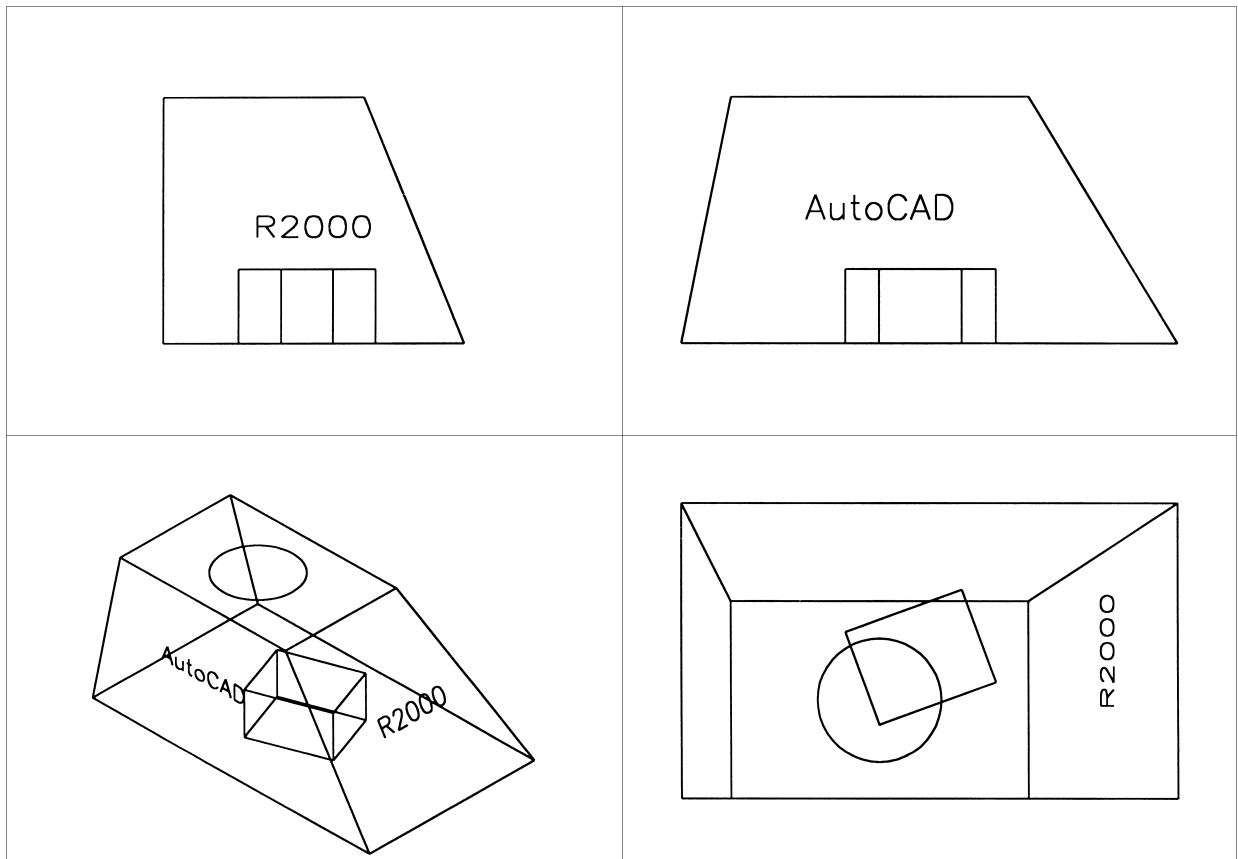

**Figure 10.13** Centre viewport example 1 – 3DWF3 by scale factor.
- 7 When the zoom-scale command has been completed, the model will be 'neatly centred' in all viewports as Fig. 10.13